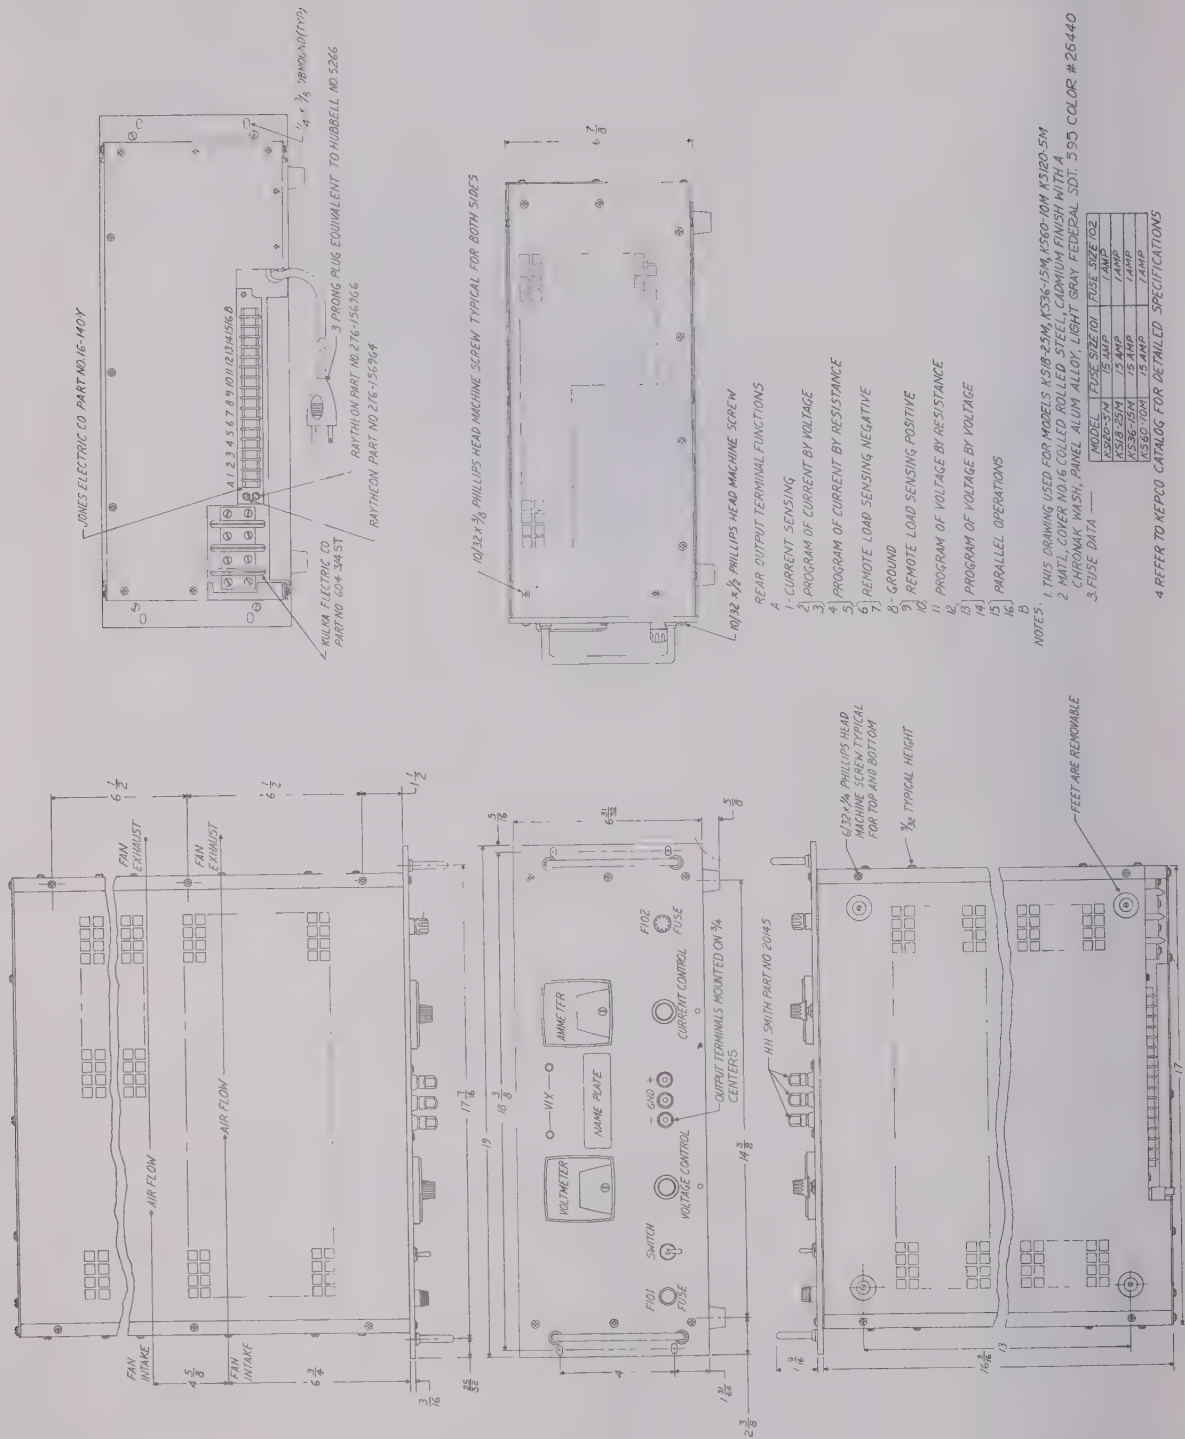

FIG. 1-3 OUTLINE DRAWING
- c) Dimensions: Standard EIA rack dimensions. Refer to FIG. 1-3.